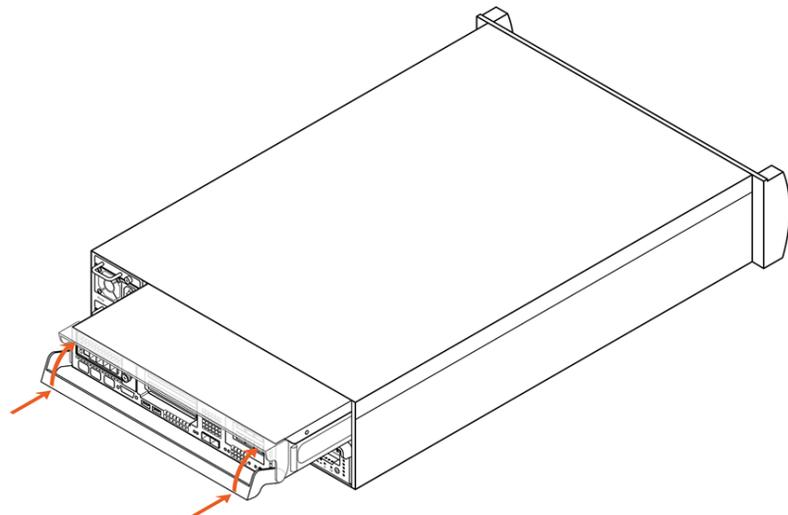

Figure 13-18. Reinstalling the Controller
4. Align the controller with the controller slot. See Figure 13-18.